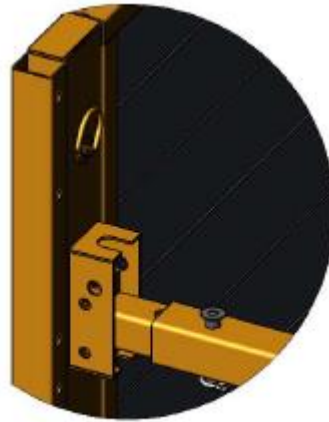

FIGURE 2
- 4.2 Next, place the spreaders inside of the spreader sockets and insert pins and keepers (FIG. 2). Do this with all four spreaders before moving to the next step.